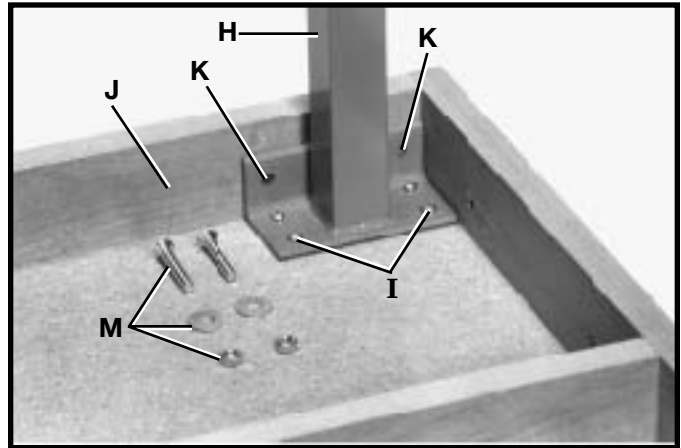
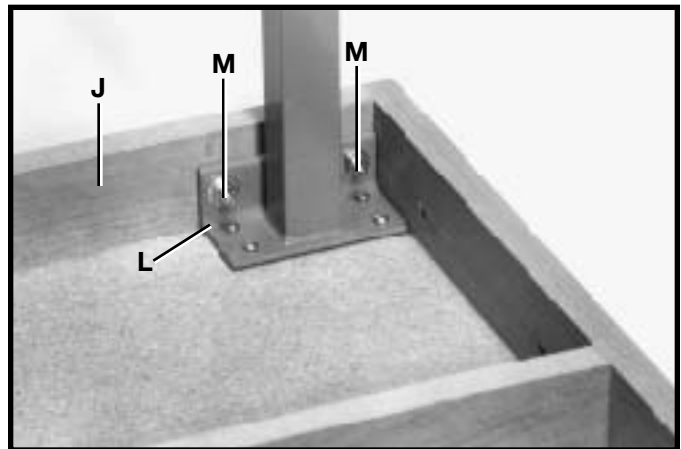

Fig. 16
Fig. 17
2. Figure 16 illustrates one of the legs (H) fastened to the bottom of the extension table with the four wood screws (I). Using a 1/4" drill bit, drill two through holes through the end piece (J) of the table using the two holes (K) as a template.
3. Fasten the leg bracket (L) Fig. 17, to the end piece (J) of the table using the two 1-1/2" long flat head Phillips screws, flat washers and hex nuts (M) Figs. 16 and 17. Fasten the remaining leg to the extension table in the same manner.
2. After the holes have been drilled in the edge of the front and rear extension table board, fasten both front and rear rail to table using the 1-1/2" flat head Phillips screws, flat washers, and hex nuts (M) Fig. 16.